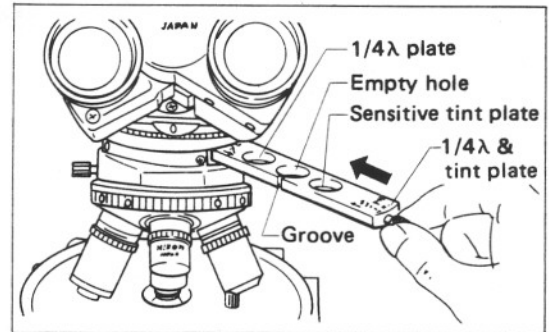

Fig. 19
- Removing the $1/4 \lambda$ plate side screw, hold the $1/4 \lambda$ & tint plate, the click-stop groove facing the operator and insert it forward into the compensator slot. Then screw-in the above screw as it was. (Fig. 19)